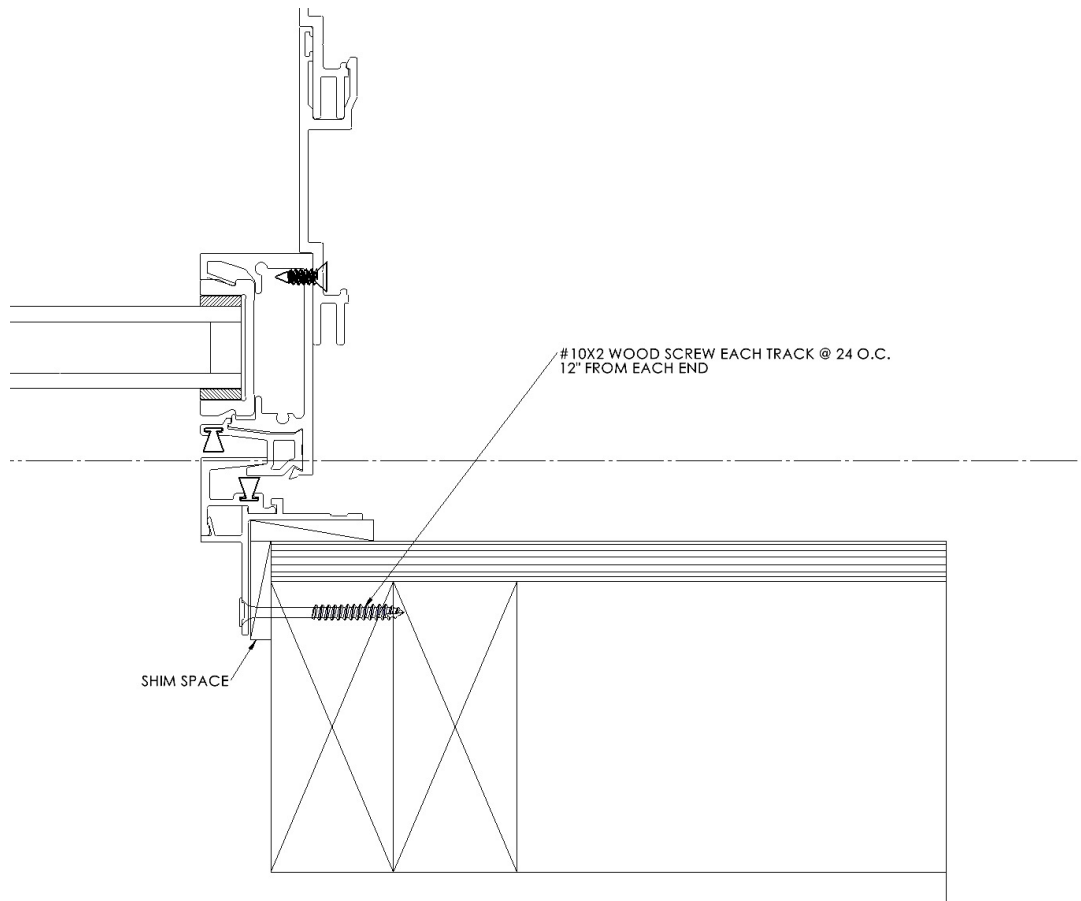

Figure 8
19. Complete the installation of the post interlock frame members by shimming between the nail fins and the structure as required to ensure they are plumb. Check the dimension between the inside and outside members from top to bottom to ensure that they are parallel. Anchor the members using #10 X 2.5" flathead screws. It is critical that the post interlock frame members are plumb and square to the head and threshold, and parallel to each other, to ensure smooth and quiet operation as the pocket panel interlock engages the post interlock. Un-snap the "hook" portion of the post interlocker on the side that will engage the pocket panel, so that the pocket panel will have room to enter the pocket. The "hook" on the other post interlocker can stay in place. See **Figure 8**.